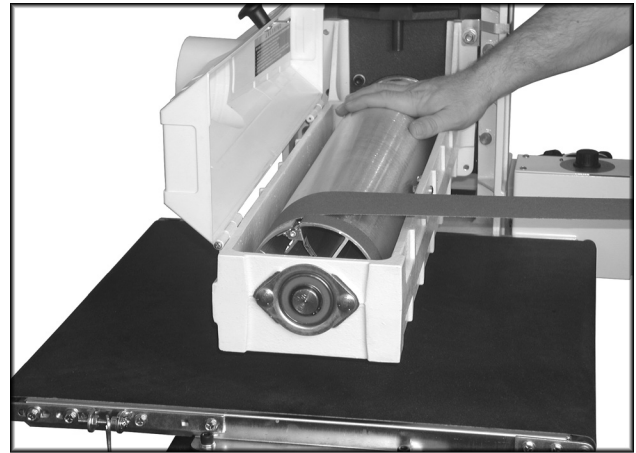

Fig. 9
1. Wrap the abrasive strip around the drum, being careful not to overlap the windings, as shown in Figure 9.